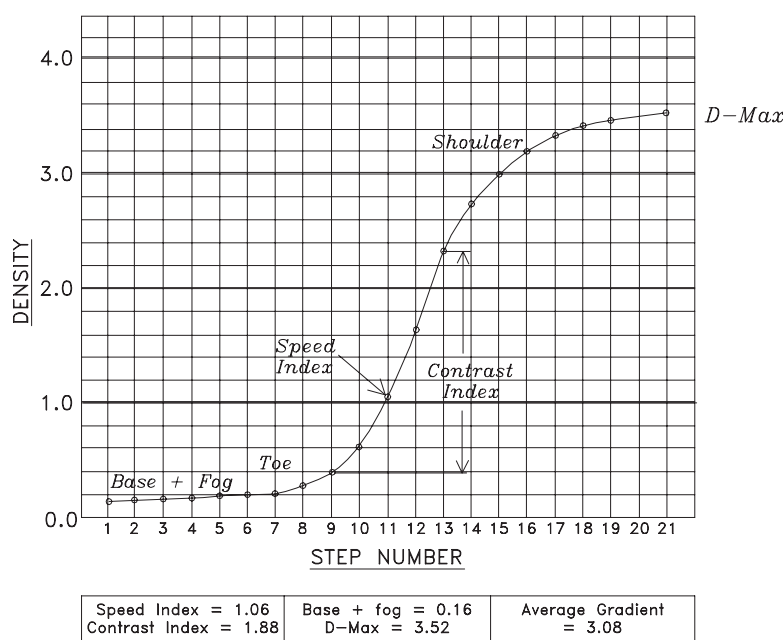

Fig A-2. Example of a characteristic curve
- Join up all the plots to form a free flowing curve. (See fig A-2).
- Calculate the 'Speed', 'Contrast', 'Base plus Fog (D-Min)', 'Temperature' and 'D-Max' and enter on the appropriate graphs. (See Fig A-2 and Fig A-3)
- Measure and plot the density of the speed steps daily. (See Fig A-2, Fig A-3, and Appendix C page 177.)
- Repeat this process daily, plotting the contrast indicator under appropriate dates. (See Fig A-2, Fig A-3, and Appendix C page 177.)
- Repeat this procedure daily, plotting the base plus fog density under appropriate dates. (See Fig A-2, Fig A-3, and Appendix C page 177.)
- Repeat this procedure daily, plotting Temperature under appropriate dates, (See Fig A-2, Fig A-3, and Appendix C page 177.)
- Record against the zero line of the **D-Max Chart**. Do this only on day one, after the chemistry has been freshly mixed. (See Fig A-2, Fig A-3, and Appendix C page 177.)